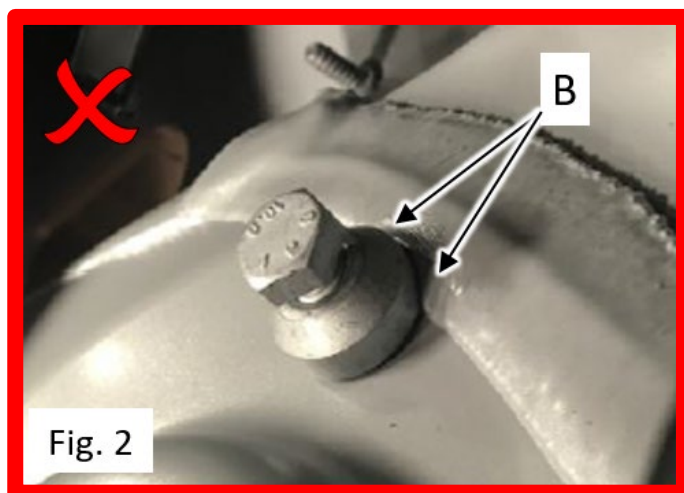

Fig. 2
- If the PVC sealant interferes with the bolt <arrows B> (fig. 2):